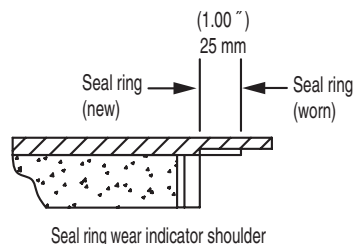

Figure 1
Check the rotary joint regularly to determine seal ring wear. As shown in Figure 1, the shoulder on the nipple will move outward as seal ring wear takes place. Should the seal ring (6) wear away completely, the metal nipple (4) can contact the joint body (1) and the wear plate (16), eventually wearing through it. This will result in a significant leak and create a hazardous condition. Metal to metal contact of these parts may require replacement of the entire joint instead of just the seal ring.
Determine the location of a shoulder that is machined into the shaft of the rotary joint nipple (see Figure 1).